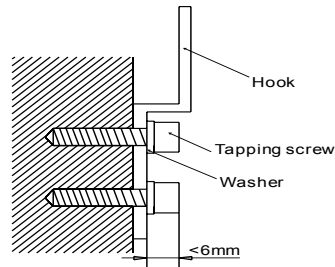

Fig. 5-13
1. Fix the hook with tapping screw onto the wall.(Refer to Fig. 5-13)